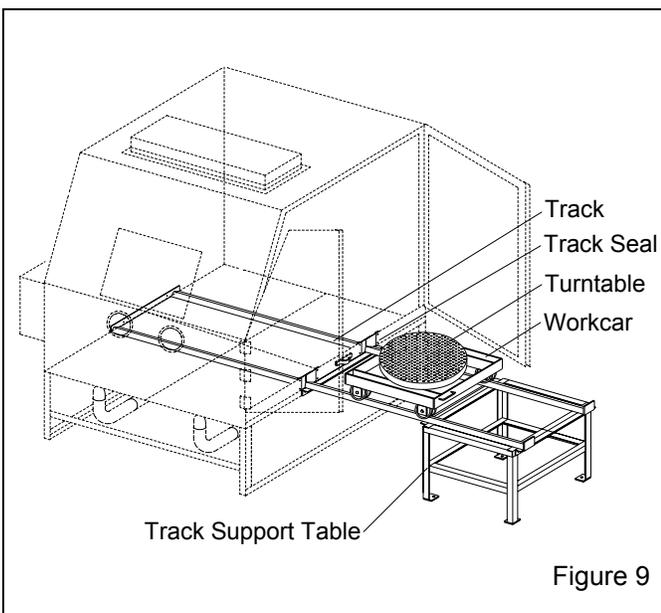
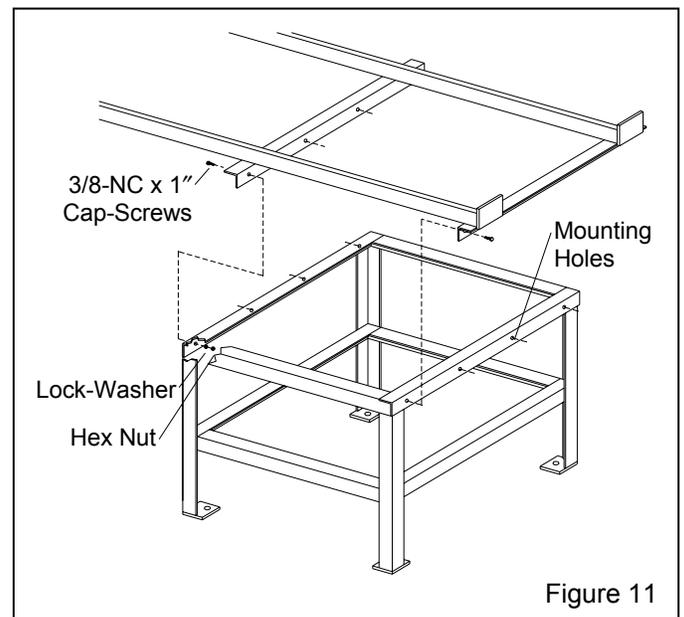

Figure 9
Figure 11
**3.4.1.1** These instructions cover field installation for 500 lb. capacity workcar and track assemblies. If the track was ordered with the cabinet, it is partially assembled at the factory. Disregard the instructions that do not apply. See Figure 9 for arrangement of the major components.
**3.4.3.2** Being careful not to damage the track seals, lay the track assembly in the cabinet as shown in Figure 9. Align the mounting holes in the track support table with the track cross supports as shown in Figure 11, Secure with 3/8-NC x 1" cap-screws, lock-washers, and nuts.